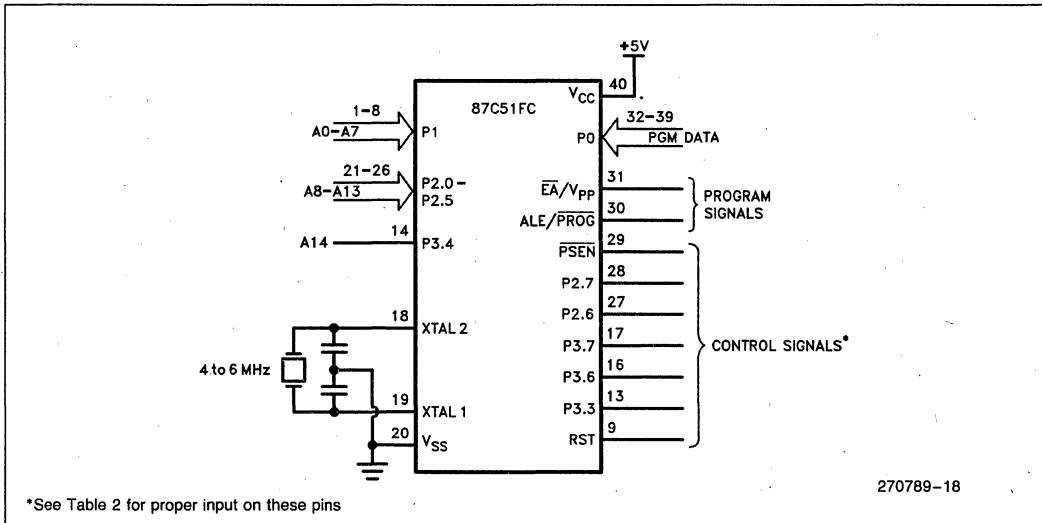

Figure 10. Programming the EPROM
Refer to Table 2 and Figures 10 and 11 for address, data, and control signals set up. To program the 87C51FC the following sequence must be exercised.
15. Deleted all references to A15 in "Definition of Terms" and Figure 10.